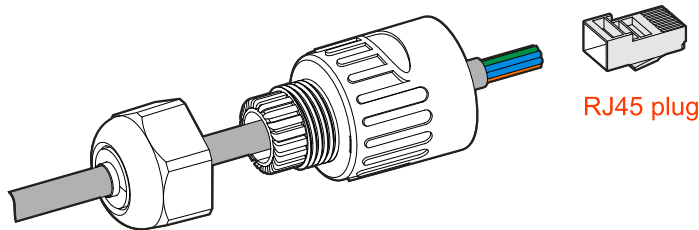

Figure3-29 Crimp the wires of RJ45 plug
- Step 1 Strip the insulation layer of communication wire, unscrew the lock nut of waterproof RJ45 connector (as shown in Figure3-29) and then lead the communication wire go through the RJ45 connector and crimp it to the RJ45 plug.